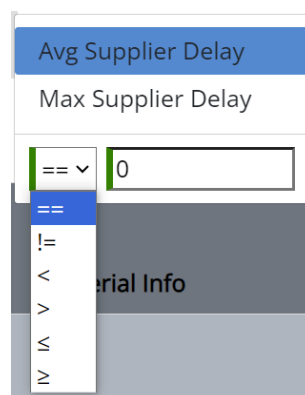

Figure 5: Filter Options - Number Input
- For numerical value columns, the input is divided into two different boxes so that the user can choose the filter operation and the value of said operation (Figure 5).